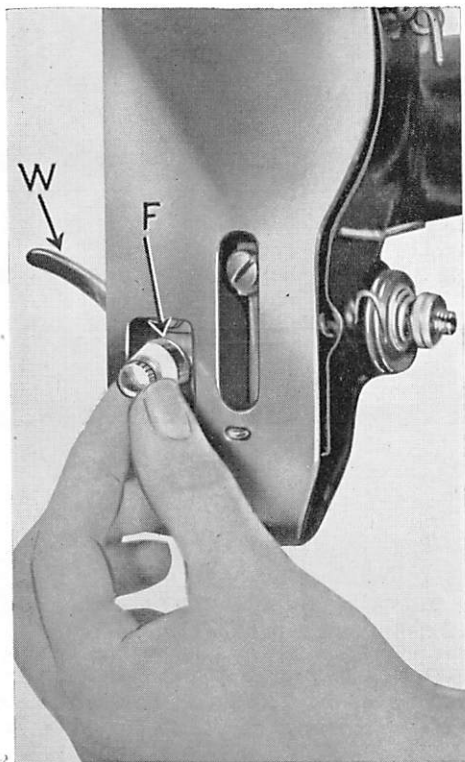

Fig. 8
1. Release thread tension by raising the hand lifter W (Fig. 8).
Lift up the presser foot by means of the hand lifter "W" (Fig. 8) and insert the material to be darned beneath the presser foot. Then release the hand lifter to lower the presser foot in operating position. A slight pressure to the knee or foot rheostat will start the machine.
The knob F (Fig. 8) is an adjustment built into the machine to enable it to work on the heaviest as well as the lightest materials by making only the simplest of adjustments. The machine, as it comes to you, is adjusted for light and medium work. When such heavy work as nets, coats, blankets, over-alls, and aprons is encountered, raise the presser foot by means of the hand lifter W and take hold of the adjusting knob F (Fig. 8). Pull this knob out and turn a half turn toward you; the adjustment knob will then slip into its new position.